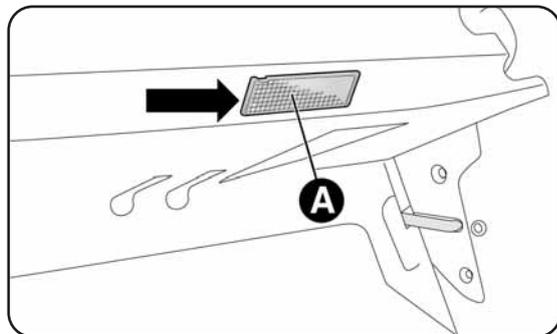

fig. 32
- remove the light A-fig. 32 using leverage at the point shown by the arrow;